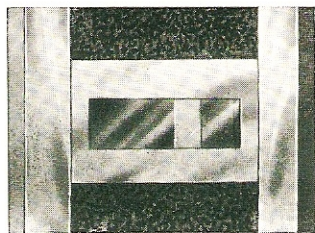

Fig. 9
the red F must be visible in the exposure counter! After the seven rotations, make only short movements with the winding disk (27), closely observing the progress of the film and the window for film-wind indicator (34). As soon as the film leader reaches the feeler device (36), the light signal in the window (34) will jump about 2 to 3 mm to the right (Fig. 9),